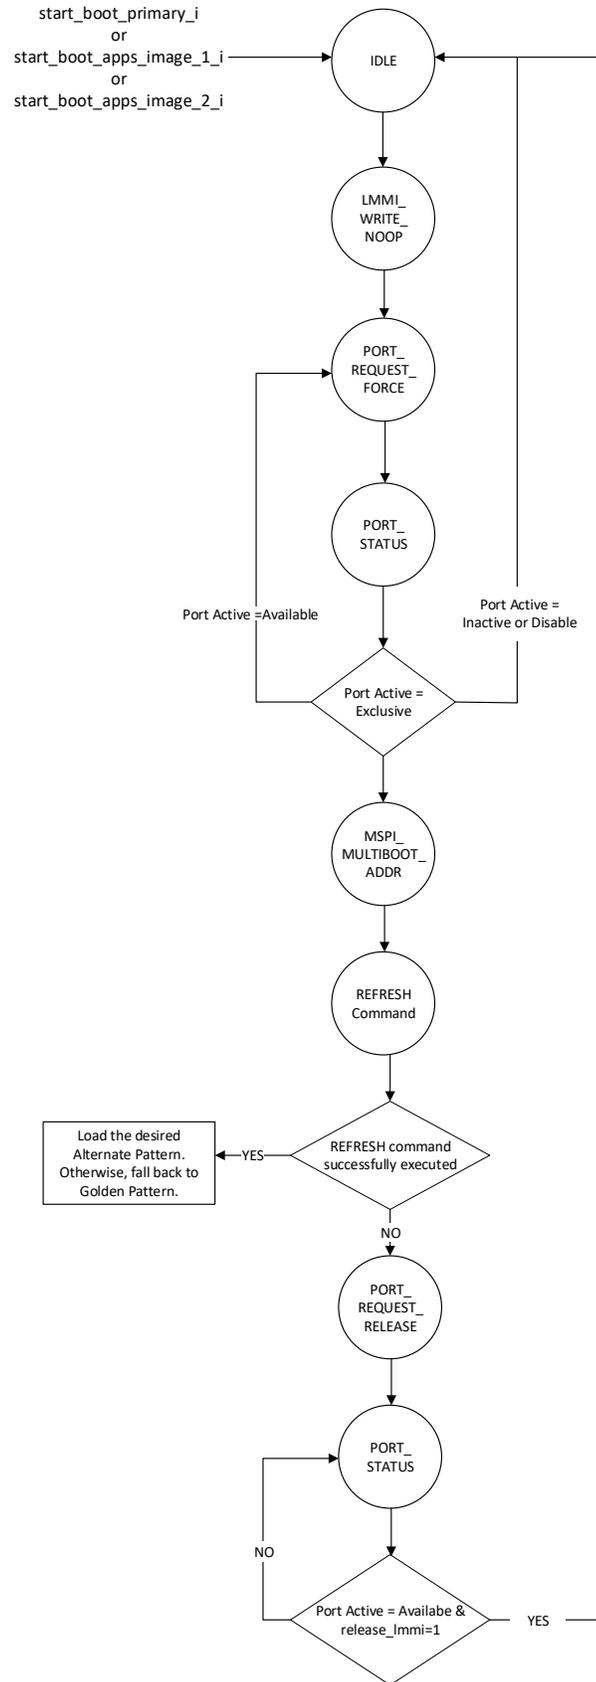

Figure 3.2. State Diagram of Refresh Controller Instance
- **cfg\_lmmi\_fsm:** Implements a state machine controller to send the necessary commands to the `CONFIG_LMMIC` primitive to boot the desired alternate pattern stored in an external SPI flash. The controller performs the following sequences. Refer to Figure 3.2 for more details.